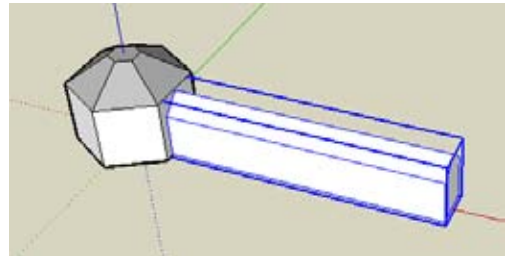

Figure 3-18
2. If you try to move the cutout object through the gazebo, you'll find that it won't go—the object is “glued” to the face on which it was drawn. To get rid of this stickiness, make the cutting object a group (Figure 3-18): Select its front and side faces with a right-to-left selection window, right-click on one of the selected faces, and choose Make Group.